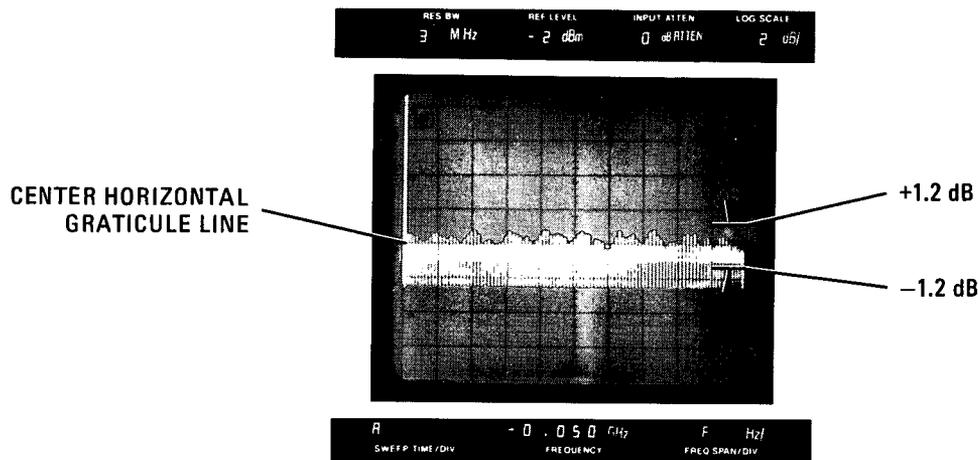

Figure 4-17. Typical Frequency Response, .01 to 1.8 GHz
- f. Set spectrum analyzer PERSIST control fully clockwise. Set sweep oscillator for automatic internal sweep at slowest sweep time (100 seconds). Slowly adjust sweep oscillator sweep time vernier for display similar to that of Figure 4-17. Read greatest positive and greatest negative deviations from center horizontal graticule line. Frequency response (deviation from center horizontal graticule line) should not exceed ± 1.2 dB.